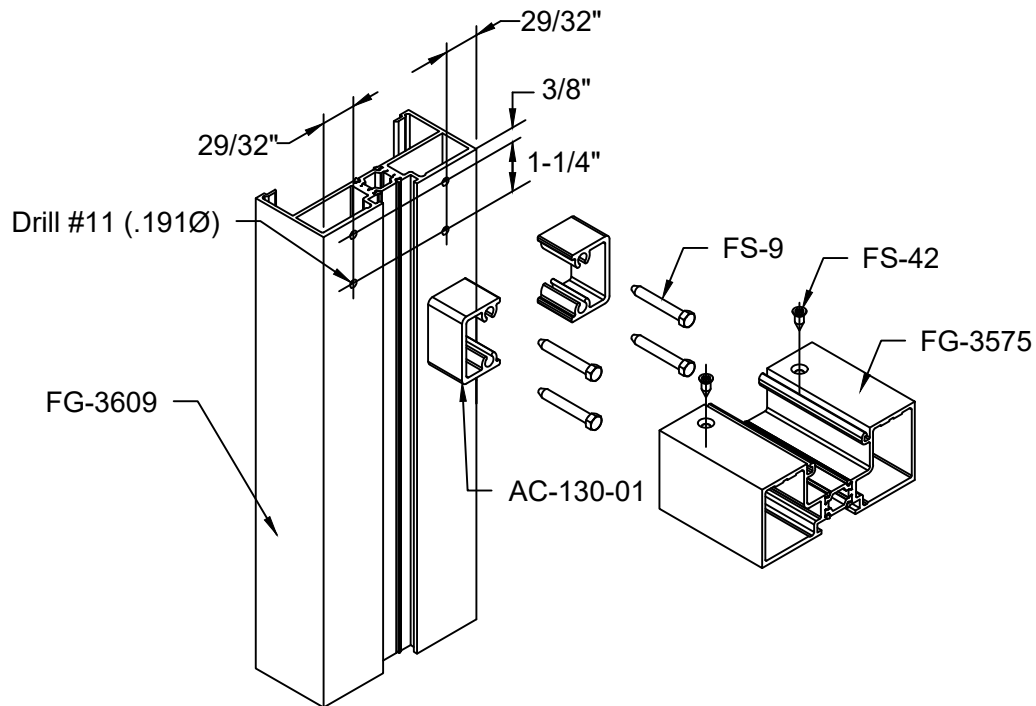

FIGURE 7
2. Attach (2) AC-130-01 shear blocks to top end of door jambs using (4) FS-9 #14 x 1 1/2" hex head fasteners. See FIGURE 7 below.